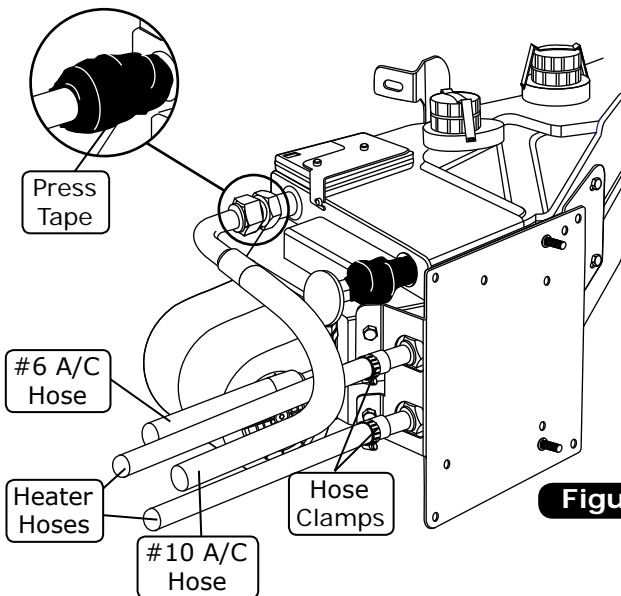

Figure 4
4. Lay the evaporator sub case on the passenger side floorboard. Install the A/C & heater hoses on the evaporator as shown in Figure 4, below, and A/C hose installation instructions on Page 17. **NOTE: Wrap the #10 fitting connections with press tape (See Figure 4, below).**
3. Install (4) S-clips onto the hose adapter (See Figure 4, below).
4. Install the center louver hose adapter onto the center louver assembly as shown in Figure 4, below.